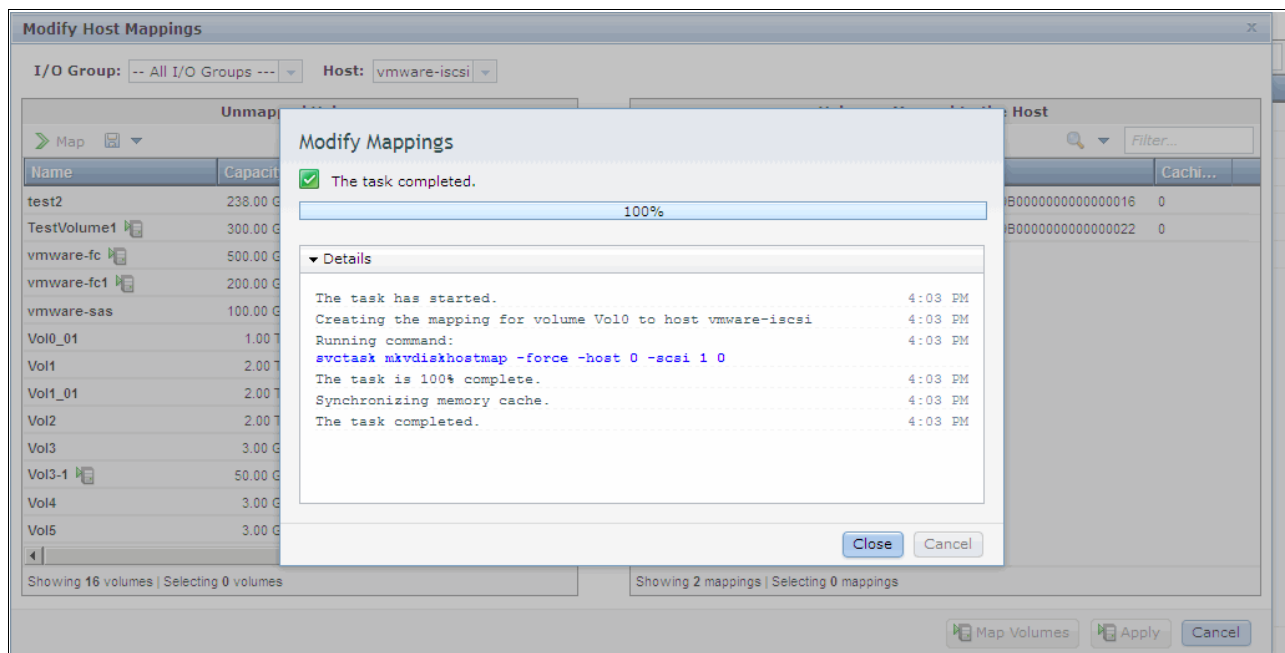

Figure 5-32 Modify mapping complete
5. After the task completes, click **Close**, as shown in Figure 5-32. If you selected the **Map Volumes** option, the window returns to the Hosts display. If you clicked **Apply**, the GUI still displays the Modify Host Mappings window.